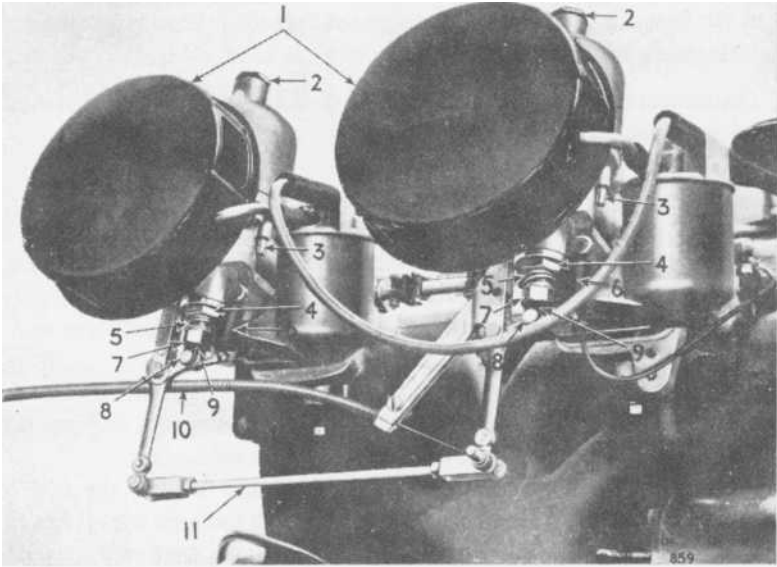

Fig. 28. Carburettors.
8. Check mixture on each carburettor in turn by lifting the piston approximately $\frac{1}{8}$ " (3 mm.) with a pen-knife blade or lifting pin (3) (Fig. 28).
9. If when the piston is lifted the engine speed increases the mixture is too rich and the nut (7) should be screwed up one flat. If the engine speed decreases unscrew nut (7) one flat.
Jet Centralizing (Fig. 28)